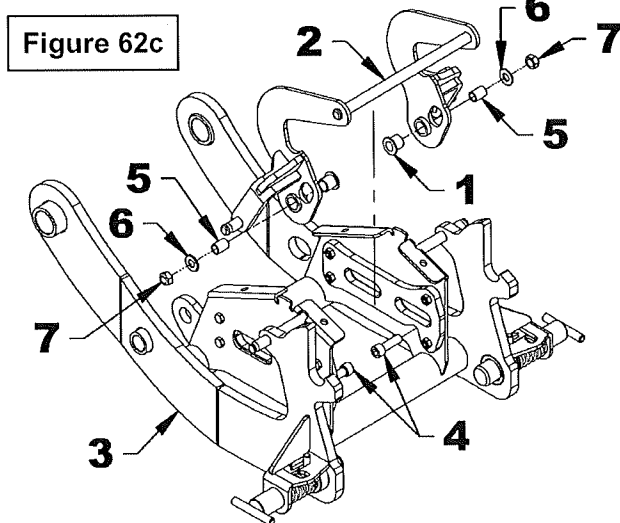

Figure 62c
3. **Figure 62c:** Insert the 5/8"lg x ø1/2" ID x ø5/8" OD plastic shoulder bushings (item 1) in the bushings of the engagement lever (item 2). Attach the engagement lever (item 2) to the 4-point male hitch (item 3) using two 3/8"NC x 1 1/4" allen socket head cap screws (item 4), two ø1/2" x 11/16" lg pivot bushings (item 5), two 10mm flat washers (item 6) and two 3/8"NC stover locknuts (item 7).